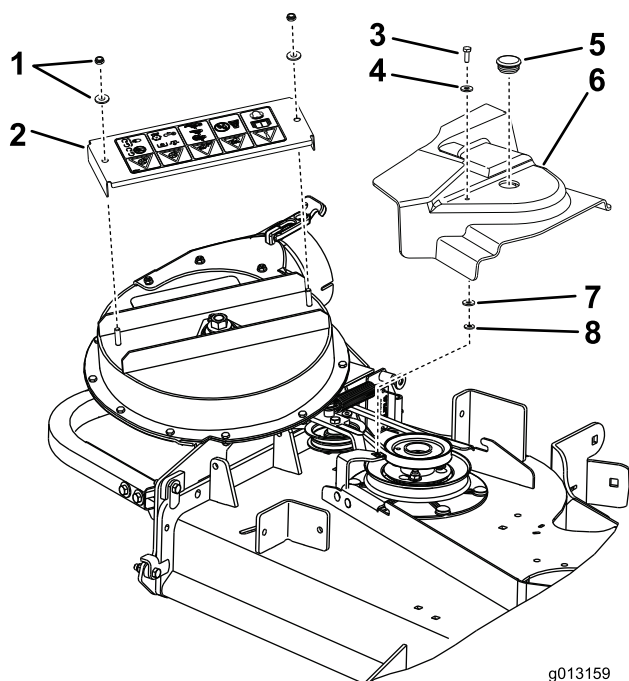
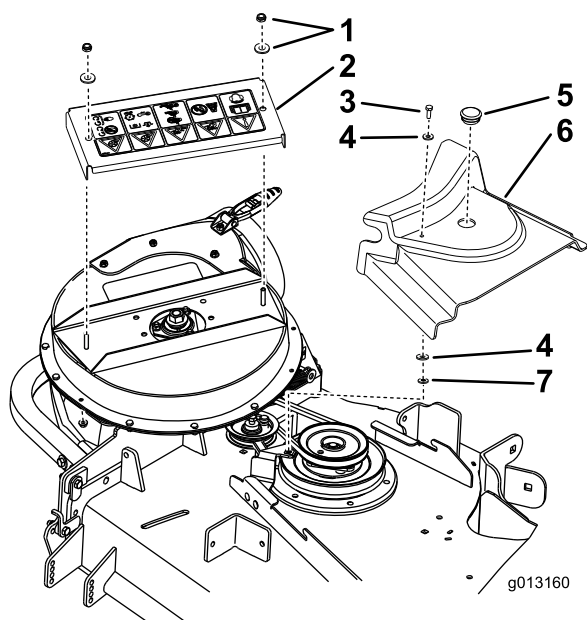

Figure 2
Figure 3
1. Remove the existing blower cover (Figure 2). Save the hardware.
2. Remove the existing belt cover (Figure 2 or Figure 3).
3. Attach the bolt (1/4 x 3/4 inch) and a flat washer (5/16 inch) to the belt cover with a flat washer (1/4 inch) and push nut (1/4 inch) (Figure 2 or Figure 3).
4. Install the belt cover and tighten the bolt (1/4 x 3/4 inch) (Figure 2 or Figure 3).
5. Install the new blower cover using the existing hardware previously removed (Figure 2 or Figure 3).
6. Install the plastic plug in the existing belt cover (Figure 2 or Figure 3).